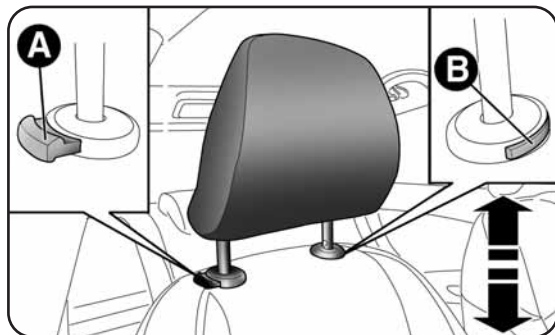

fig. 26
- downward adjustment, press the A button fig. 26 and lower the head restraint.
- press A and B buttons fig. 26 and then remove the head restraints by sliding them upwards.